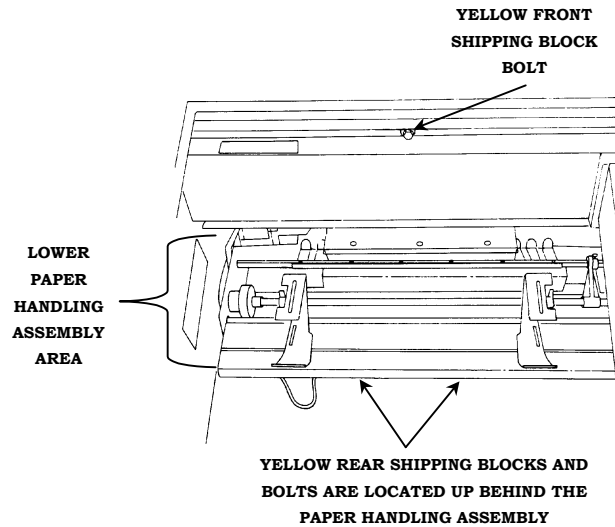

Figure 2-5 Shipping Block Bolts
2. To locate the two yellow rear shipping blocks and bolts, enter the lower area of the printer far enough to look up behind the paper handling assembly (lower tractors and paper guides.) See Figure 2-5.
4. Remove the three yellow shipping block bolts from the “ceiling” of the lower enclosure. See Figure 2-5.